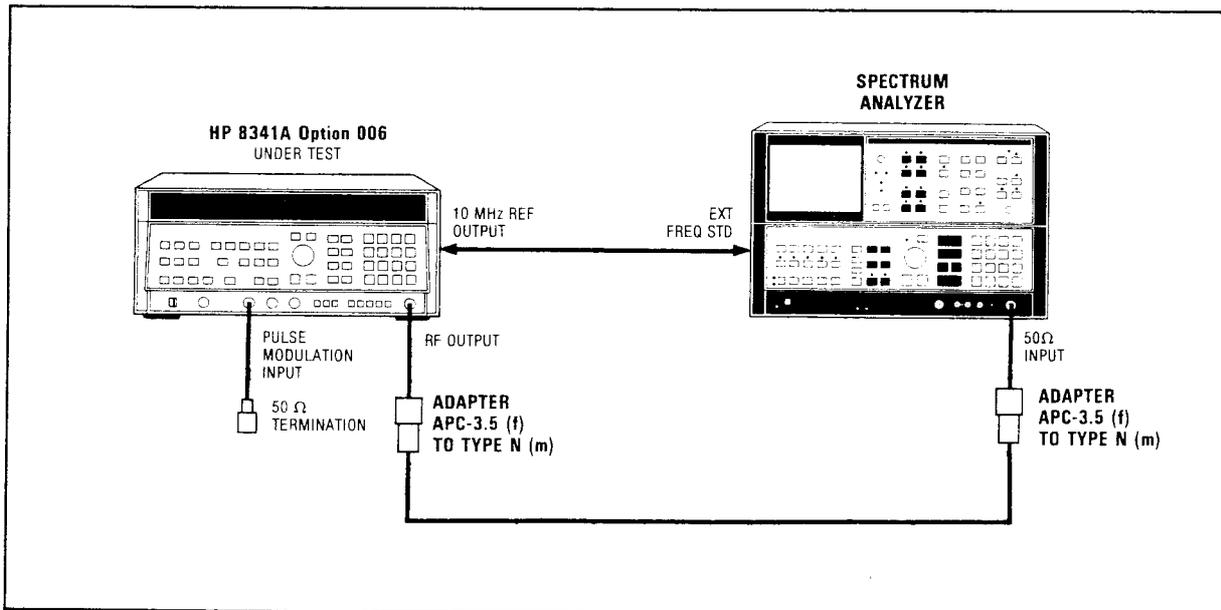

Figure 4-11. Pulse Modulation ON/OFF Ratio Test Setup
1. Connect equipment as shown in Figure 4-11. Allow at least 30 minutes warm up time.
4. Press HP 8341A [**PULSE**] key (ON). The spectrum analyzer marker delta amplitude level should be greater than 80 dB.